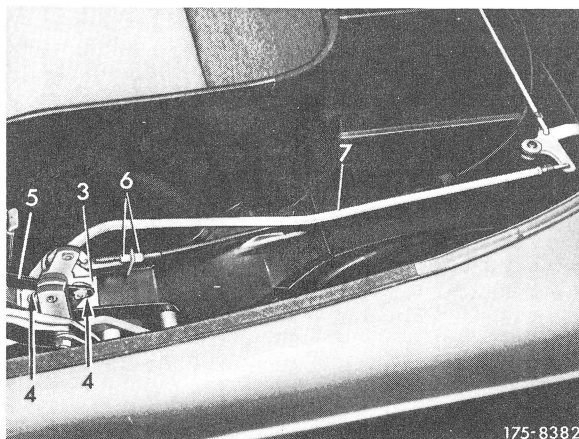

Fig. 2a
- 2 Remove push rod (5) from guide bearing (3) (Fig. 2a or 2b).
- 3 Loosen knurled nut (6) and disconnect bowden wire on guide bearing (3).
- 4 Remove locking clip on guide lever from pull rod (7).
Unscrew fastening screws (4) on guide bearing (3) (Fig. 2a).
- 6 Lift out guide bearing (3) with pull rod (7) (Fig. 2a or 2b).